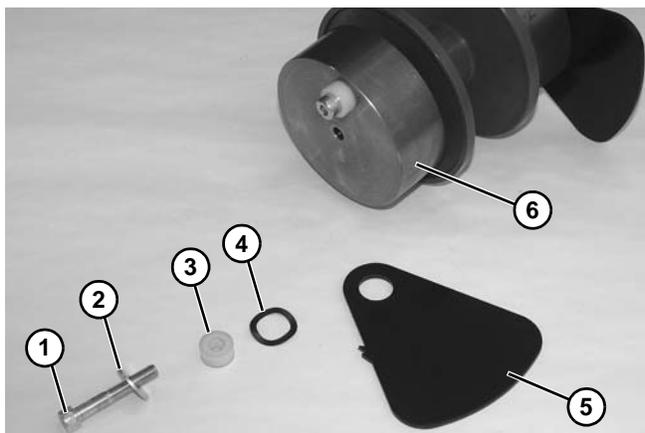

Figure 152
- Remove bolt (Figure 152, item 1), washer (Figure 152, item 2), spacer (Figure 152, item 3), wave washer (Figure 152, item 4), and plate (Figure 152, item 5) from end of idler assembly (Figure 152, item 6).